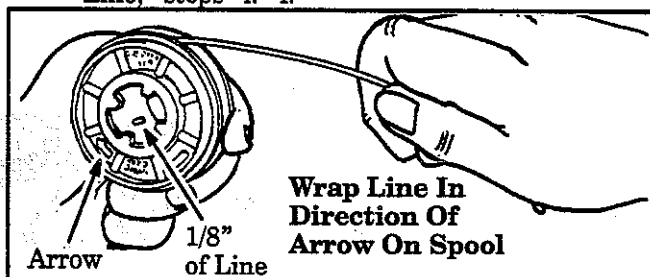

Figure 19
- Hold spool as shown in Figure 19.
- Insert 1/16" to 1/8" of line through the hole in the inner rim of the spool. Figure 19. Allow no more than 1/8" of line to extend beyond the inner rim of the spool to avoid interference with the drive gear.
- Wrap line evenly and firmly in the direction indicated by the arrow on the spool. Figure 19. To ensure proper line advance, avoid crossover or crisscrossing the line.